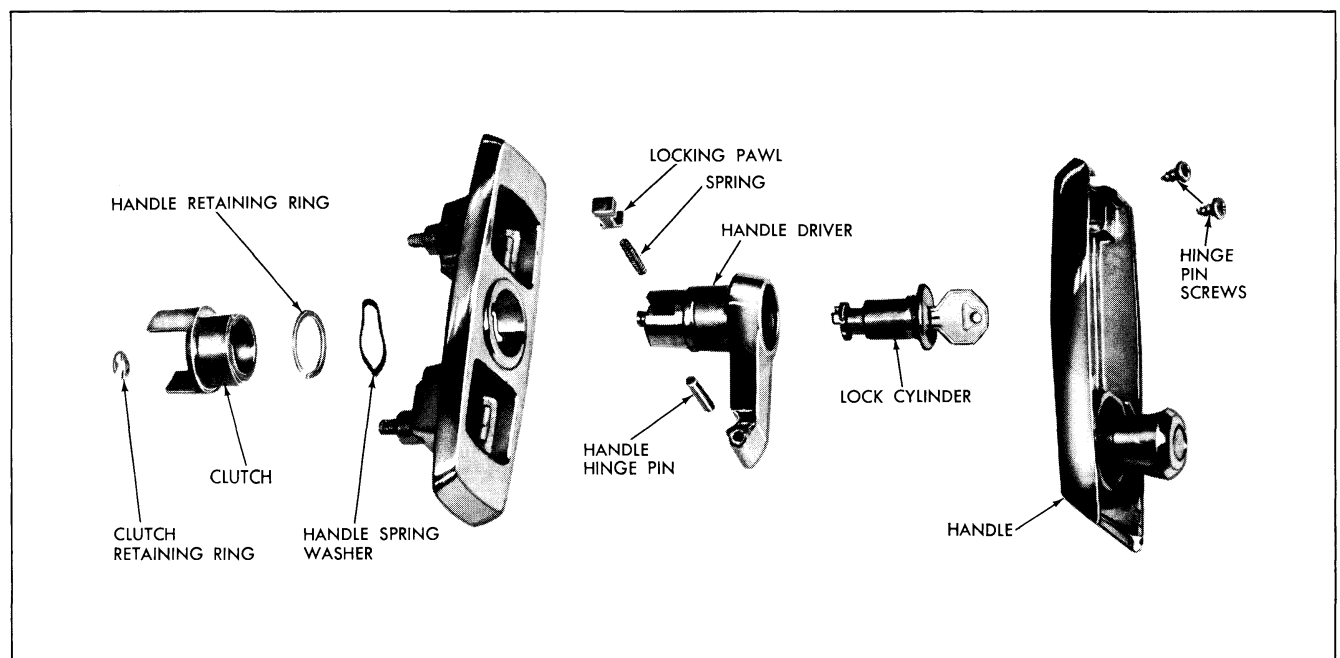

Fig. 14-21 Tailgate Outside Handle
2. Remove clutch retaining ring and slide clutch off shaft of handle driver (Fig. 14-21).
3. Using snap ring remover, remove retaining ring securing handle (Fig. 14-21), remove spring
4. To remove handle and knob, remove handle hinge pin screws (Fig. 14-21) and remove handle and knob from handle driver.
3. Insert key in lock cylinder and turn key to lock position. Depress locking pawl (Fig. 14-21), turn key (lock cylinder) approximately 1/4 turn counter-clockwise and remove lock cylinder, locking pawl and locking pawl spring from handle driver.
2. Disengage lock cylinder case retainer (Fig. 14-21) and remove lock cylinder and switch from escutcheon.